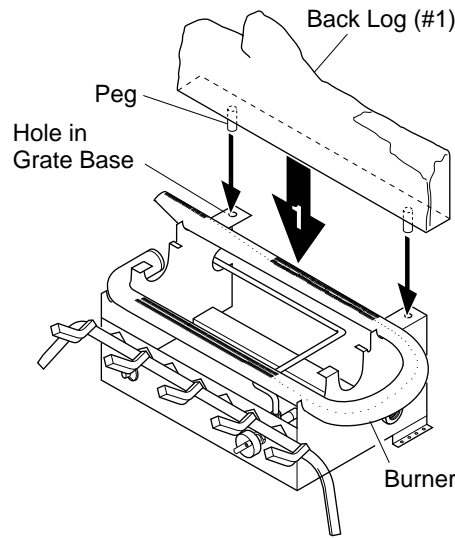

Figure 17 - Installing Back Log (#1)
1. Locate pegs on the bottom of back log (#1). Slide these pegs into the holes in the grate base behind the burner (see Figure 17).